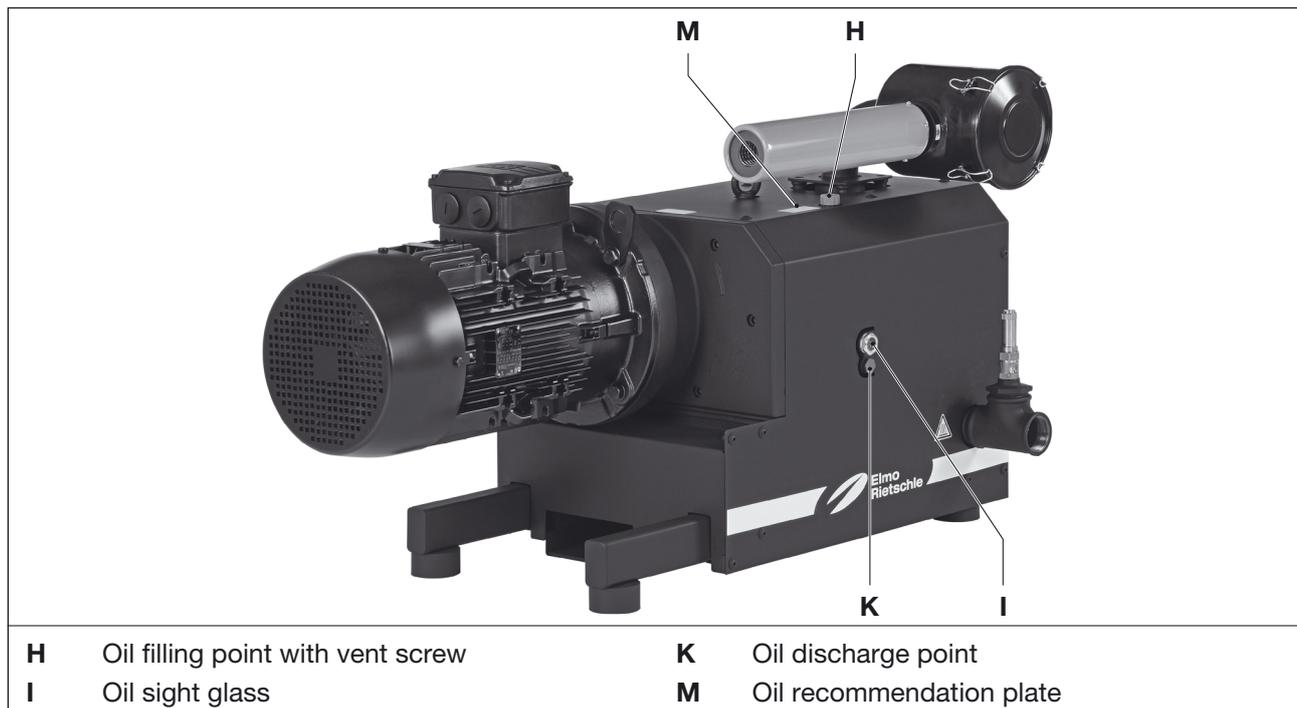

Fig. 7 Oil change
We recommend using Elmo Rietschle oils (also see Oil recommendation plate (Fig. 7/M)) as well as Tab. 2 on page 30:
Check the oil level in the sight glasses (Fig. 7/I) every month.
- b) Open the cap of the oil filling point (Fig. 7/H) and refill oil until it reaches the upper edge of the sight glass (Fig. 7/I).
- b) Place the container below the oil discharge position (Fig. 7/K).
- c) Open the screw of the oil filling point (Fig. 7/H), open the oil discharge point (Fig. 7/K) and completely discharge the used oil.
- d) Close the oil discharge (Fig. 7/K) and fill in new oil in the oil filling position (Fig. 7/H) until the oil level has reached the middle of the inspection glass.
- e) Close the screw in the oil filling point (Fig. 7/H).